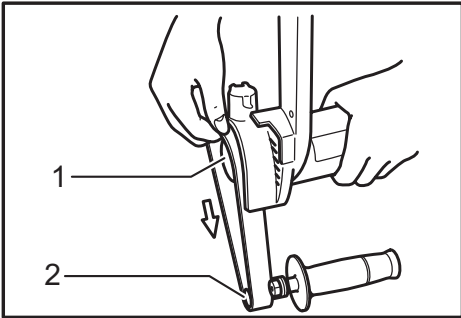

Fig.3
► **Fig.3:** 1. Rear pulley 2. Front pulley